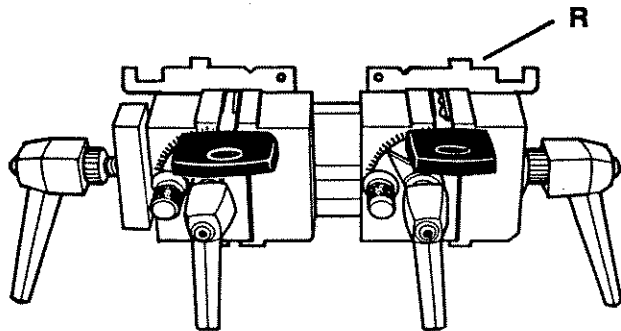

Figure 10
Keys without shoulders are aligned in the vises from the tips. A service bar (R) is inserted into the groove at the rear edge of the vise jaw. Then, the key is pushed up the vise jaw slot until it contacts the service bar. Once the vise is tightened to clamp the key, the service bar is lifted out of the groove (see Figure 10).